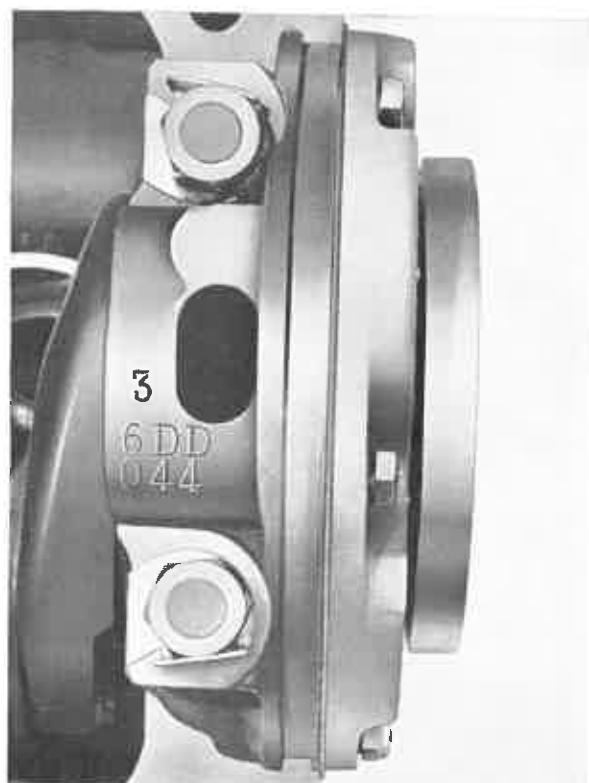

Fig. M.6.
6. Fit lower halves of bearings to bearing caps and place in position. Each main bearing cap is stamped 1, 2 or 3 to indicate the position in which it should be replaced (See Fig. M.6). The bearing caps are also marked with a serial number which can again be